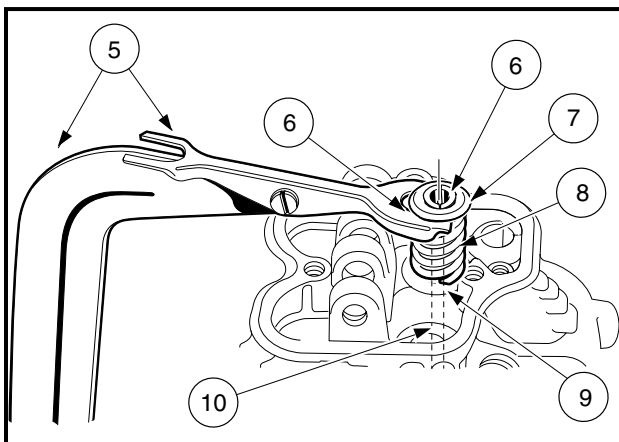
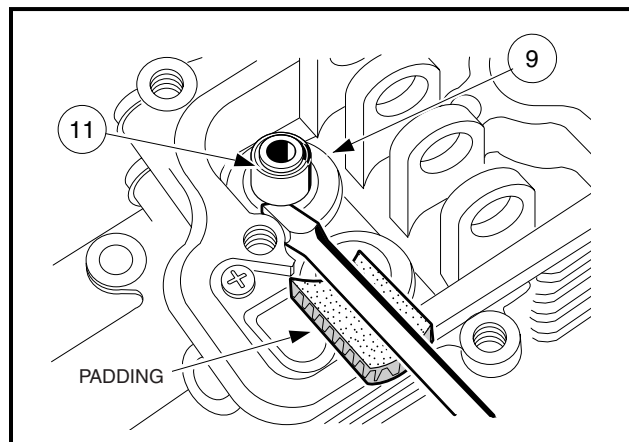

Figure 18-10 Valve Removal
Figure 18-11 Spring Seat Removal
1. Compress the valve spring using a valve spring compressor (5) (CCI P/N 101641101) and remove the collet halves (6) (**Figure 18-10, Page 18-8**).
2. Remove spring compressor, and take out the upper retainer (7) and the spring (8).
3. Remove valve (10).
4. Remove valve stem seal (11) with a screwdriver (**Figure 18-11, Page 18-8**). See following **CAUTION**.
- To keep the screwdriver from damaging the cylinder head flange surface, place a piece of heavy cardboard or wood between them (**Figure 18-11, Page 18-8**).
5. Remove spring seat (9) (**Figure 18-11, Page 18-8**).